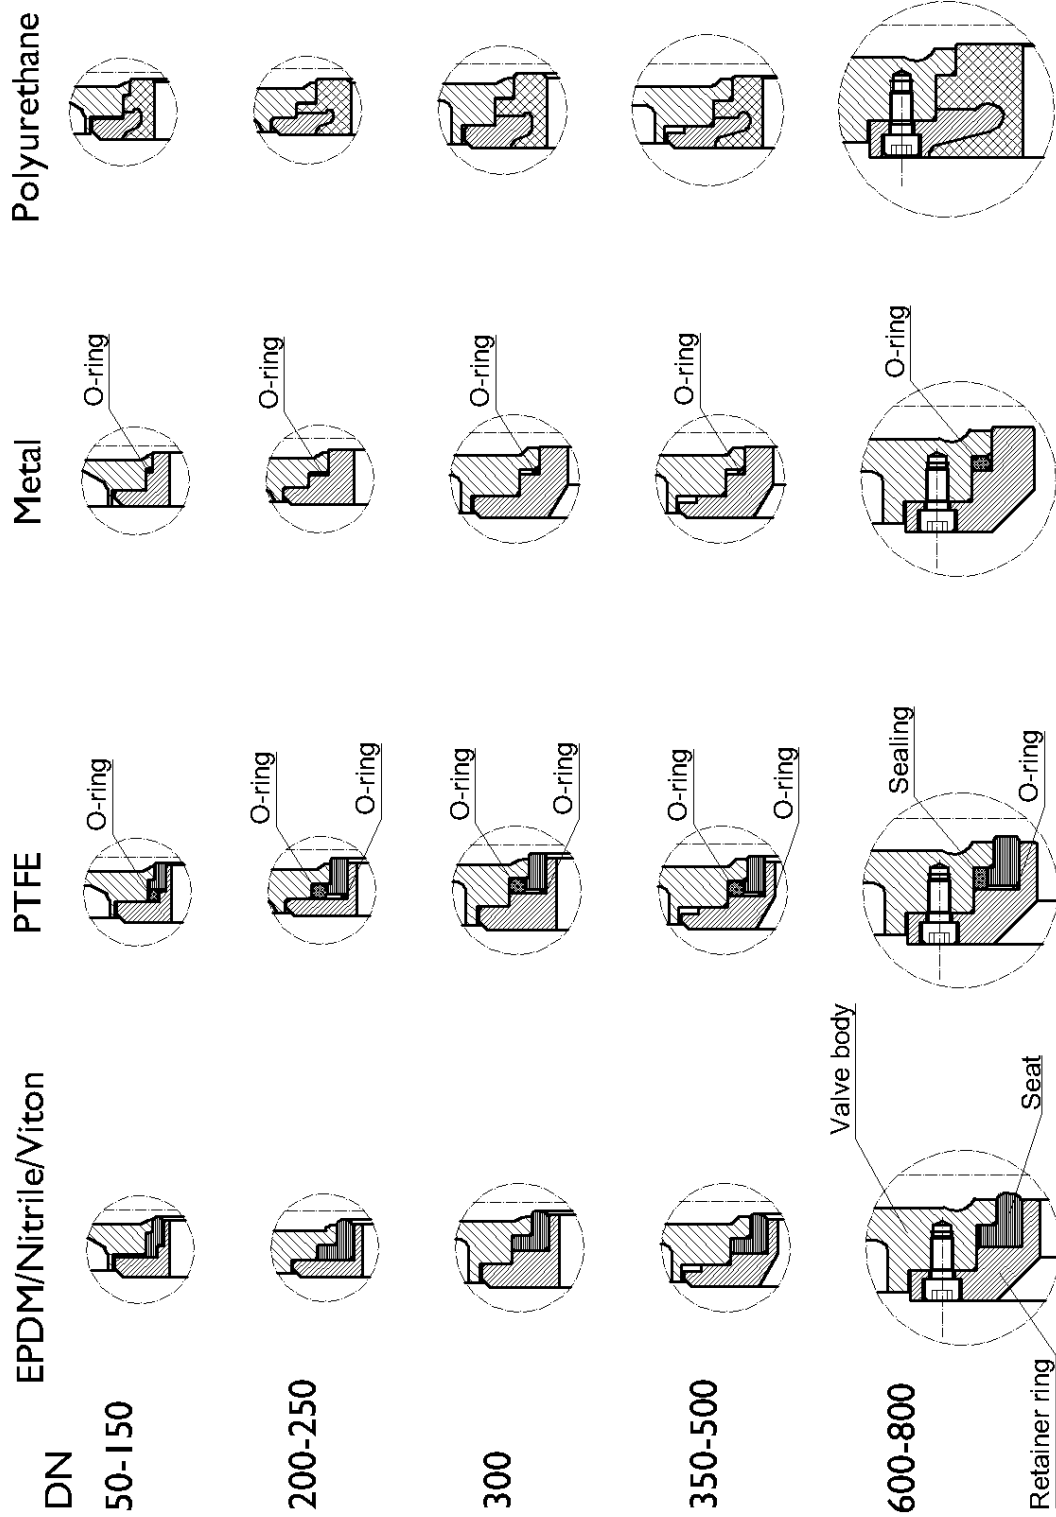

Figure 3 Seat and O-rings
4. Remove the retainer ring (12) by unscrewing the screws (12a) it is fastened with.
5. Lift of the Retainer ring (12). If the retainer ring is stuck, use a screw driver or similar tool and bend carefully between the retainer ring and the valve body in several places around the bore until the ring is loose.
6. Check the gate (6) for damages such as dents and scratches. If the gate is damaged it can wear out the box packing (9) and the seat (13), causing leakage. Stafsjö recommends changing the gate if it is damaged to ensure the function of the valve.
8. Install a new seat (13) on the retainer ring (12) and place the retainer ring in the valve body (10). For PTFE or metal seat, O-rings (19) must also be installed, see figure 3. Lubricate the seat and the O-rings with a synthetic lubricator to make the installation easier.
9. Lock the retainer ring (12) in place with the screws (12a). The screws function is only to hold the retainer ring in place. The function of the retainer ring will take effect when the valve is mounted between pipe flanges.